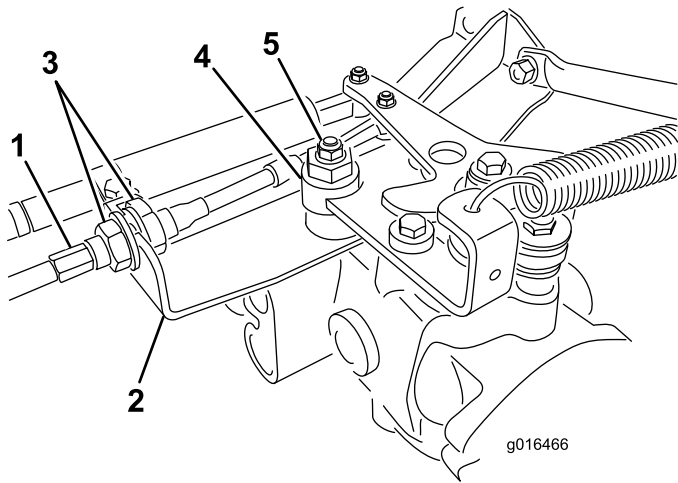

Figure 41
- A. Loosen both jam nuts securing the traction-control cable to the bulkhead on the hydrostat (Figure 41). Ensure that the jam
Note: Loosen the nut securing the eccentric to the top of the hydrostat (Figure 41).
- E. When the wheel stops rotating, tighten the nut locking the eccentric and the adjustment (Figure 41).
- G. From each side of the bulkhead, tighten the locknuts evenly, securing the traction cable to the bulkhead (Figure 41). Do not twist the cable.